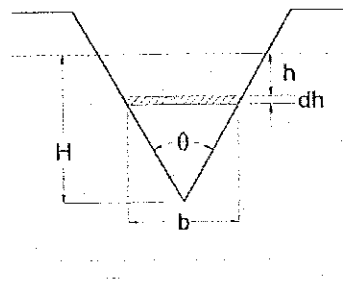

Figure Q6
- (a). A sharp edge triangular weir with an included angle of  $\theta$  is shown in Figure Q6.
- (c). A triangular weir is used to measure the flow rate of a 3m wide open channel as shown in Figure Q6. If the head of water  $H$ , over the apex is 1.5m and the notch angle( $\theta$ ) is  $60^\circ$ , determine the flow rate of water through the channel. The coefficient of discharge  $c_d$ , for the weir is 0.60.